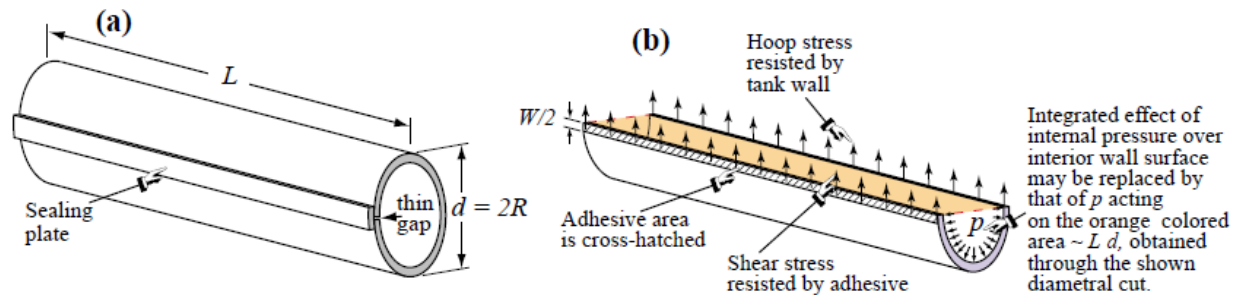

Figure 1.5
A cylindrical pressure tank 20-ft long and 48-in in mean diameter is to be fabricated from a 1/2 in thick steel. A 20 ft long, 12-in wide and 1/2-in thick plate is bonded into the tank to seal the gap, as shown in Figure 1.5(a). What is the average shear stress in the adhesive when the internal pressure in the tank is 725 psi? Assume that the shear stress over the entire inner surface of the attaching plate is uniform. The appropriate FBD is pictured in Figure 1.5(b).
where  $t$  is the wall thickness and  $w$  the width of the sealing plate. The last term in the LHS of (2) is the pressure force acting on the orange colored area of Figure 1.5(b). Solving for  $\tau_{av}$  we get